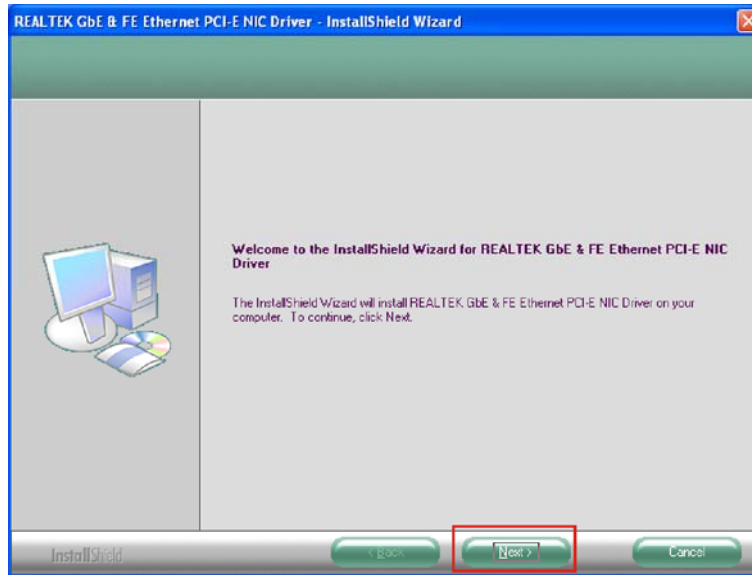

Figure 7-16: LAN Driver Welcome Screen
Step 3: The **Welcome** screen in Figure 7-16 appears.